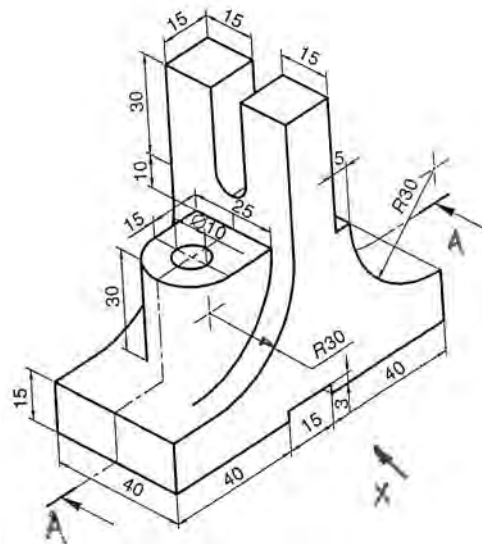

Fig. 1
3. Using first angle method, draw following views for the object shown in Fig. 1